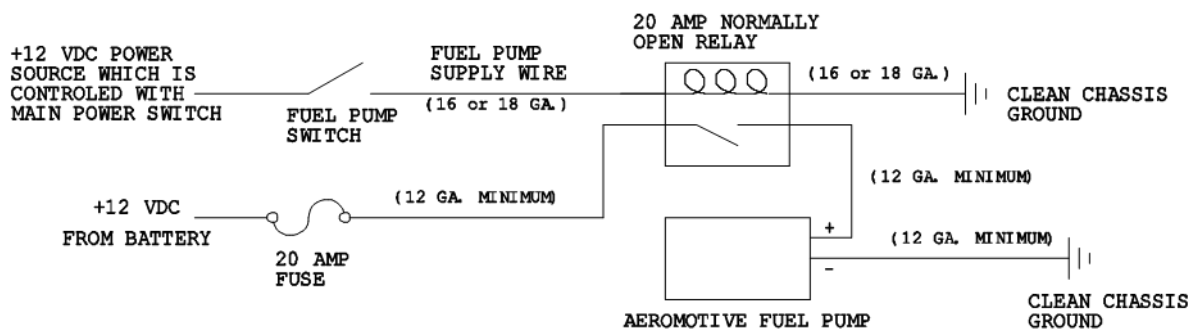

Figure 2-1
4. Install the new Aeromotive fuel tank in the vehicle and make all the appropriate connections. For electrical wiring refer to **Figure 2-1**. Ensure the included ground wire (zip tied to the tank corner) is securely connected to the hole in the fuel tank flange and routed from there and then connected to a clean chassis ground. This is required to ensure the fuel level sending unit functions correctly.